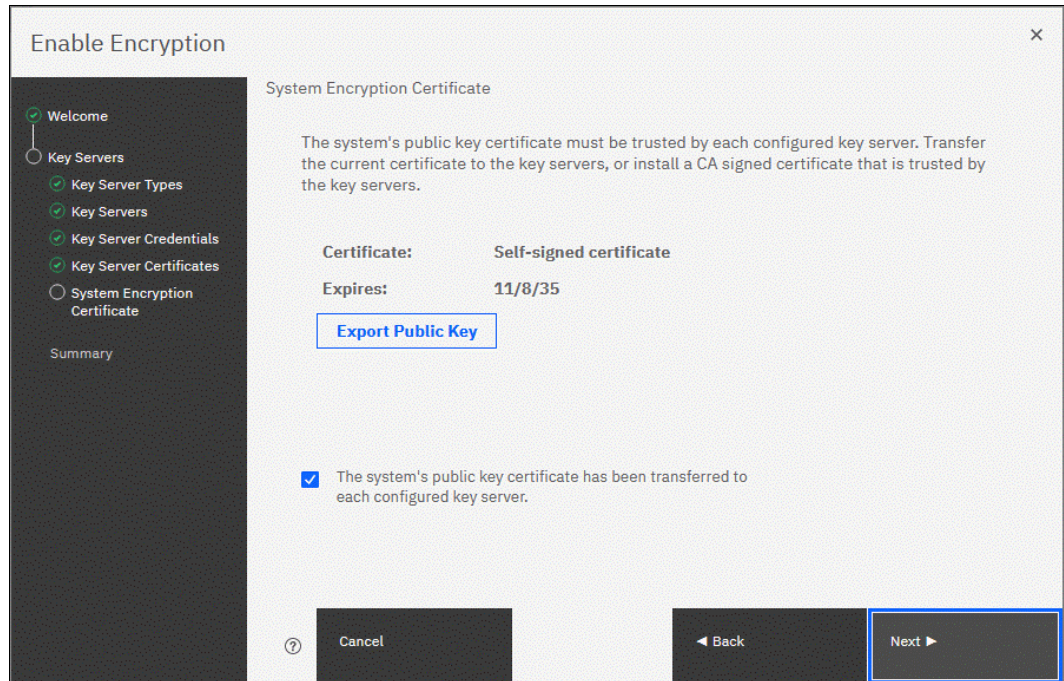

Figure 12-43 Downloading the IBM Spectrum Virtualize SSL certificate
- Configure the SafeNet KeySecure key servers to trust the public key certificate of the IBM Spectrum Virtualize system. You can download the IBM Spectrum Virtualize system public SSL certificate by clicking **Export Public Key**, as shown in Figure 12-43. After adding the public key certificate to the key servers, select the checkbox and click **Next**.